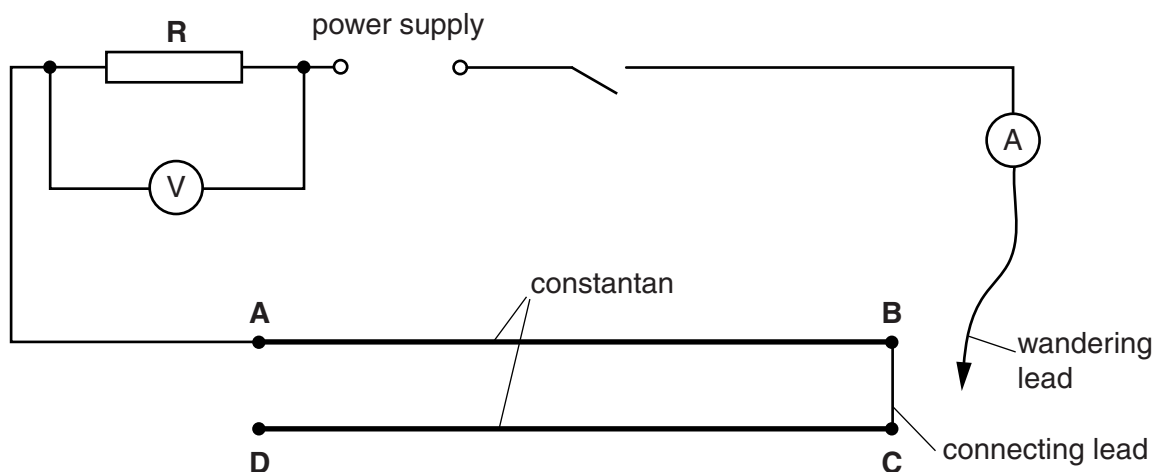

Fig. 2.1
- (vi) Two lengths of approximately 50 cm of straight, bare constantan (Eureka) wire, diameter 0.46 mm (26 swg) or 0.38 mm (28 swg) or 0.32 mm (30 swg), taped to a board. The ends of the wires are to be labelled **A**, **B**, **C** and **D**, as shown in Fig. 2.1.
- (vii) Four suitable terminals (e.g. crocodile clips) attached to the constantan wire at the ends **A**, **B**, **C** and **D** so that connections can be made to the circuit shown in Fig. 2.1.
- (viii) Sufficient connecting leads to construct the circuit shown in Fig. 2.1, with two additional leads. See note 1.
1. The circuit is to be connected by the Supervisor as shown in Fig. 2.1. The lead used for the wandering lead must be of sufficient length to reach points **A**, **B**, **C** and **D**.
Set up the circuit so that it is arranged as shown in Fig. 2.1. Check that the circuit works. Switch off.